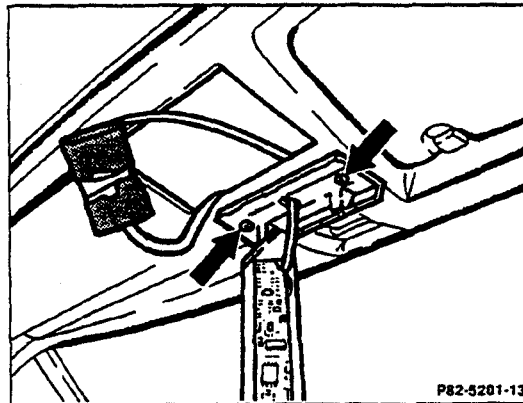

Figure 16
7. Disassemble OHC by removing the two T10 screws on the back. Place rear plate of OHC into position on headliner so that it lines up with the bracket. Secure rear plate to bracket with screws (arrows, Figure 16).
8. Guide connector from OHC through large center opening of rear plate. Remove tape from foam tube, connect overhead controller connector to vehicle harness and re-tape foam tube (Figure 16). Secure front housing of overhead controller to rear plate with two T10 screws (from previous step).